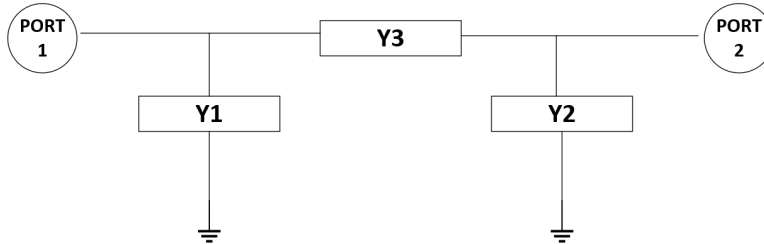
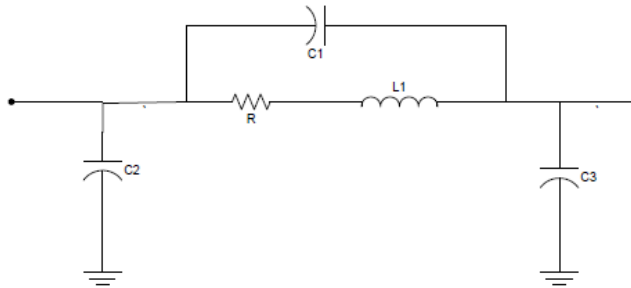

Figure 2: 2 port system for pre-lab
Figure 3: Suggested Inductor Model
1. At what conditions is Equation (7) accurate? State your answer in terms of ω , R , G , L , and C and then in terms of the physical meaning of those assumptions.
- Derive $\Gamma \approx \frac{S_{11}}{S_{11}^2 - S_{21}^2 + 1}$ from Equations (2) and (3). Explicitly state what assumptions you made in your derivation? (Hint: For the + case, solve for Q in terms of first then make an approximation based on the magnitude of Γ . For the - case, use the first two terms of the Taylor Series expansion of the square root term. What assumption about Q is this truncated expansion making?)
- You are given the Y parameters for the three sub-circuits (Y_1 , Y_2 , Y_3) shown in Figure 2, calculate Y_{11} , Y_{21} of the 2 port system in terms of Y_1 , Y_2 , Y_3 .
The DUTs (Device Under Test) are an inductor and a capacitor on a GaAs substrate. To accurately simulate the response of our inductor under test, we use the model shown in Figure 3. C_2 and C_3 represent the capacitances occurred at the ports, and C_1 represents the coupling capacitance between the spiral inductor lines. R is corresponding to the loss. Larger R means higher loss in the substrate. L_1 is, of course, the inductance of the inductor. It is easy to represent this model using “PI” network and $[Y]$ matrix, as shown in Figure 2 from Pre-lab. Using Y_1 and Y_2 , you can extract parameter C_2 and C_3 . Y_3 contains R , L_1 and C_1 's information. At low frequency, C_1 provide an open branch. If $Z_3 = 1/Y_3$, the real part of Z_3 at low frequency will be quite close to R while the imaginary part of Z_3 will provide us L_1 . From the curves of Y_3 , we can find a resonance frequency point that is corresponding to the resonance frequency of the paralleled LC circuits. Using that point and L_1 we got before, we can get C_1 .